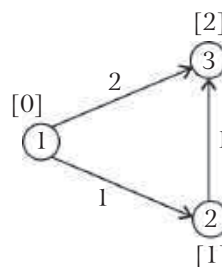

Fig. 8.17
Step 1: Starting with the origin 1 draw all links by which one can go from city 1 to other adjacent cities (here city 2 and 3) and represent the distance from city 1 to each of these cities on the links is shown in fig. 8.17.
Distance of city 2 from city 1 is 1, which is shown on node 2. All these entries are shown in fig. 8.17.
Step 2: Add cities 4, 5 and 6 to which one can go from the cities 2 and 3 represented in fig. 8.17.